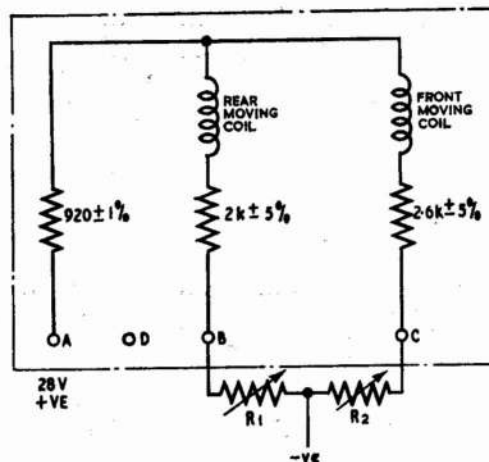

Fig. 3. Test circuit diagram
3. When testing an indicator for calibration a circuit must be connected as shown in fig. 3 : the calibration values are as follows :—